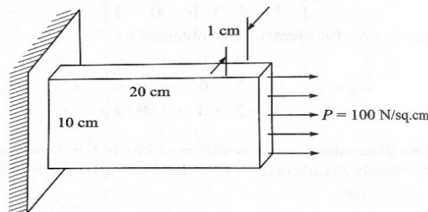

Figure 5
- (b) For a thin plate subjected to in-plane loading as shown in Figure 5 determine the Global Stiffness matrix. The plate thickness $t=1\text{cm}$, $E = 20 \times 10^6 \text{ N/cm}^2$ and moment of inertia $I=2500\text{cm}^4$. Consider it as a two elemental beam problem. [7M]